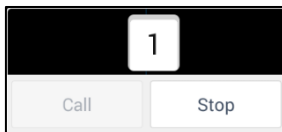

Figure 4.48 Calling the Pattern
- Click **Record** to start recording of this pattern path. The dialog box is shown in Figure 4.48.